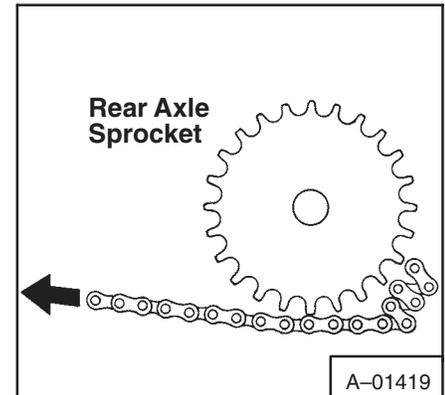

Fig. 84 Chain "Bunch-up"
**NOTE:** Pull the final drive chains out over the top of the rear axle sprocket. If you try to pull them out under the sprocket the chain can "bunch up" and keep it from passing underneath (Fig. 84).